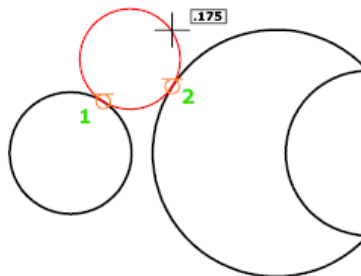

Figure 25
5. **TTR (Tangent, Tangent, Radius):** Creates a circle with a specified radius and tangent to two objects (Fig. 25). Sometimes more than one circle matches the specified criteria. The program draws the circle of the specified radius whose tangent points are closest to the selected points.